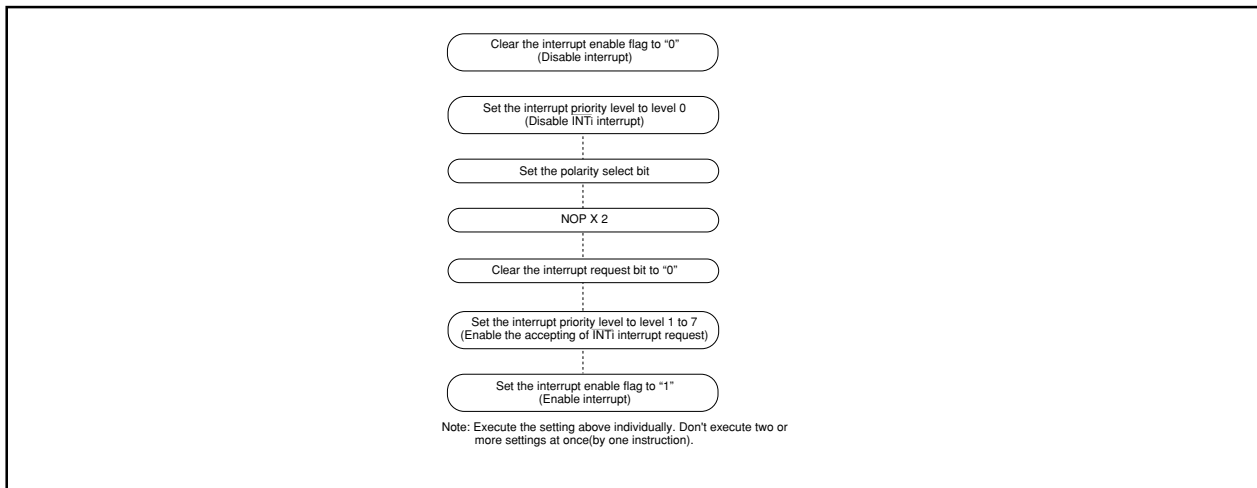

Figure 1.11.13. Switching condition of INT interrupt request
(2) Setting the stack pointer
(3) The $\overline{\text{NMI}}$ interrupt
(4) External interrupt
- When the polarity of the $\overline{\text{INT}}_0$ to $\overline{\text{INT}}_5$ pins is changed or the interrupt request cause of the software interrupt numbers 8 to 9 is changed, the interrupt request bit is sometimes set to "1". After these changes were made, set the interrupt request bit to "0". Figure 1.11.13 shows the procedure for changing the $\overline{\text{INT}}$ interrupt generate factor.